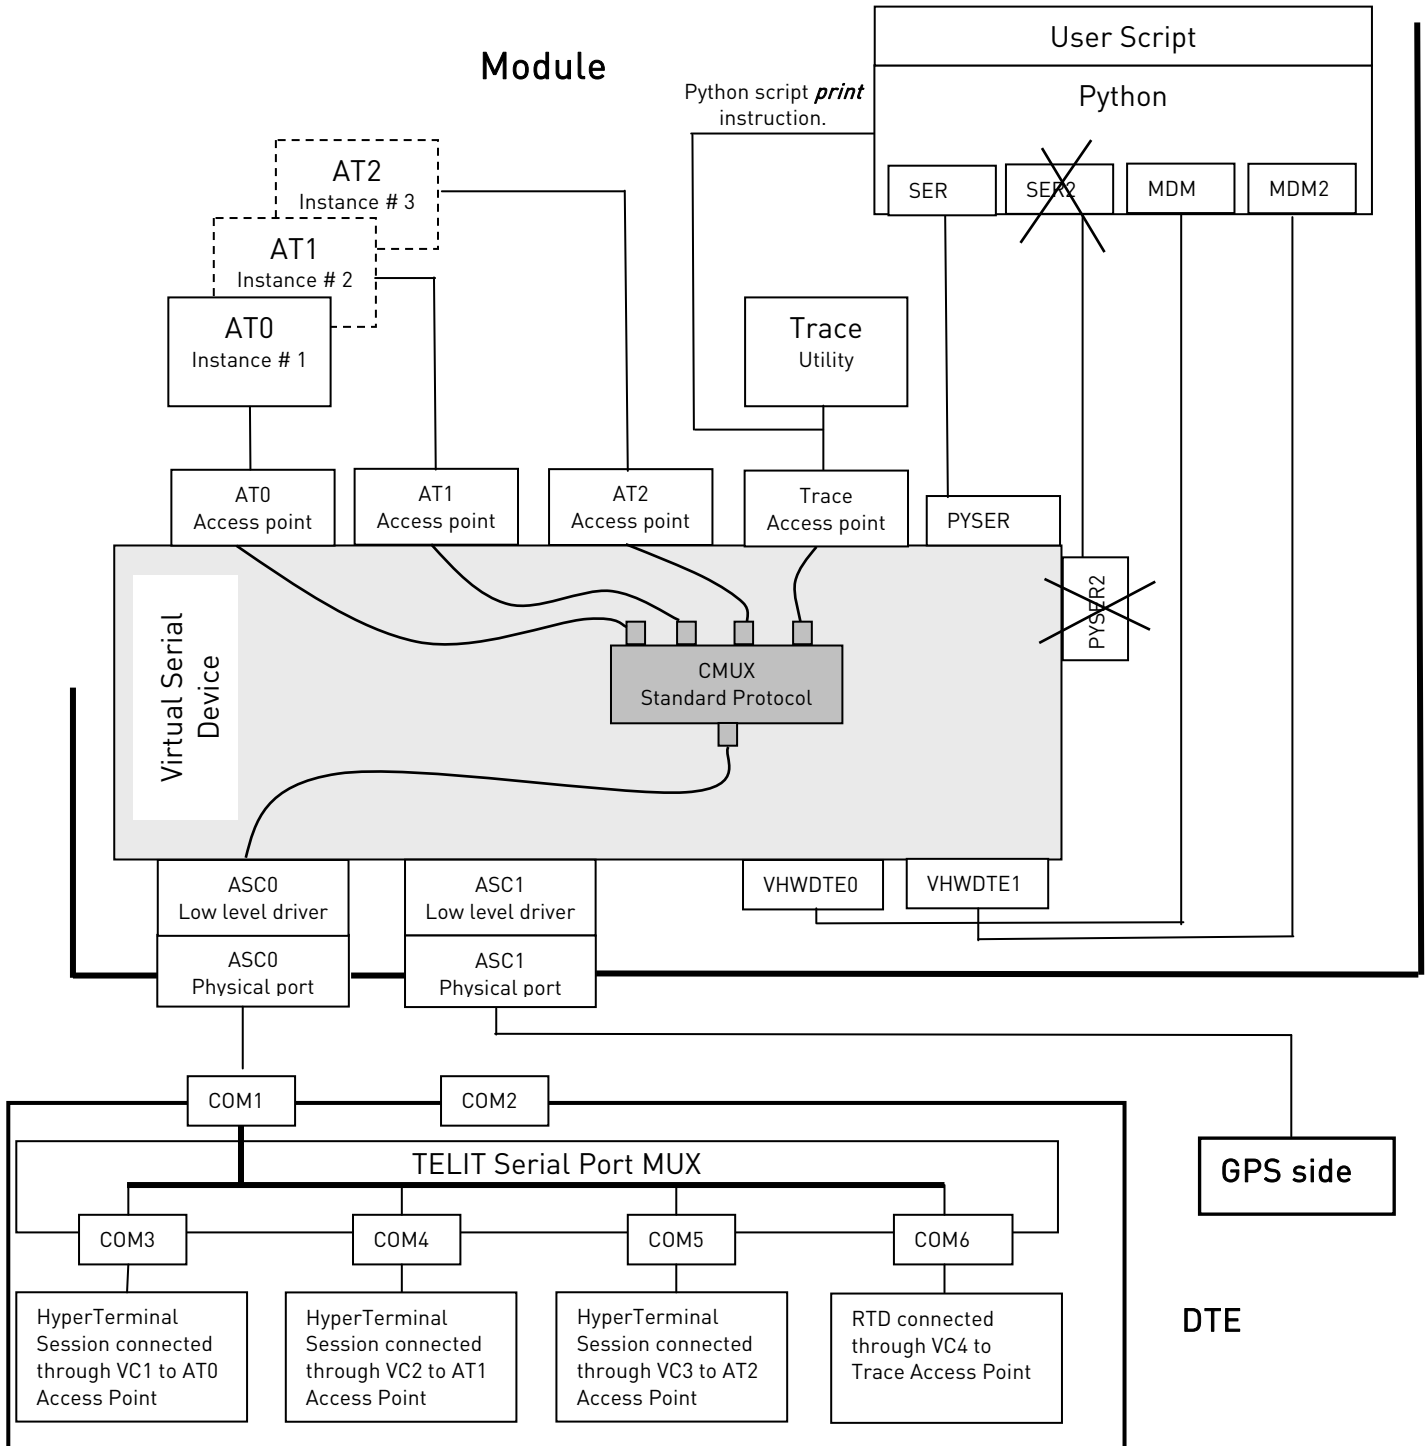

fig. 9: Initial CMUX configuration
- Power ON the module. The module checks the DTR control line of ASC0 serial port. If the DTR is asserted, it means that the connected DTE is ready to operate; in this case the module is controlled, for example, by a Hyper Terminal application. If DTR is not asserted the Python Script is started, it checks `CMUXSCR`, if its value is 1 CMUX service is started (`AT+CMUX=0` command is simulated), the configuration is showed on fig. 9.
Tab. 5 summarizes the Python *import* instructions behavior starting from a well defined VSD configuration in order to avoid possible resources conflicts with unpredictable results: CMUX is installed, see fig. 9, execute the *import* instructions one after another as indicated on the table and check the relating configuration.
- Enter AT+CMUX=0 to start the CMUX, fig. 9;